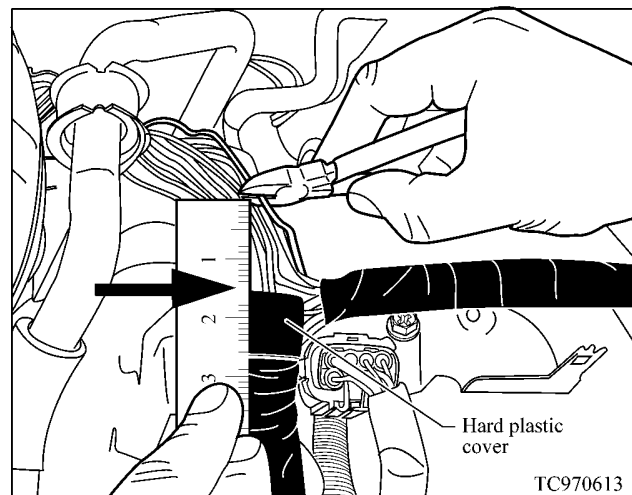

Figure 7
10. Cut the broken wire 1-1/2 inches rearward from the hard plastic cover at the intersection of the harness (see Figure 7).